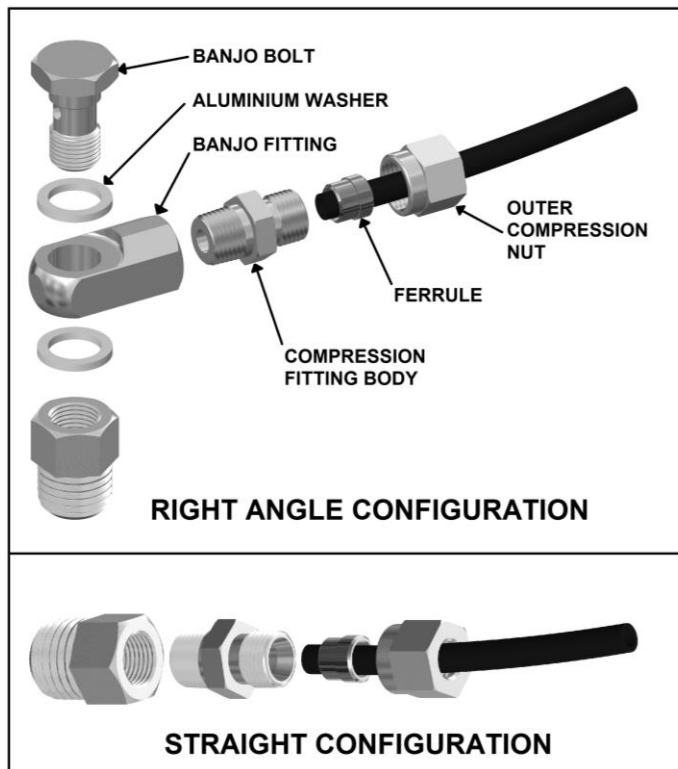

Figure 14.
- Assemble an aluminium washer onto the banjo bolt and insert through the banjo fitting. Assemble second aluminium washer and tighten into bulkhead fitting using a 14mm [9/16"] spanner. (Fig. 14.)
- Insert the outer compression nut and ferrule over the air line. Ferrule should be orientated as per Fig.14.
NOTE : When right angle routing of the tube is not required, screw the compression fitting body straight into the bulkhead fitting body (Fig.14.).